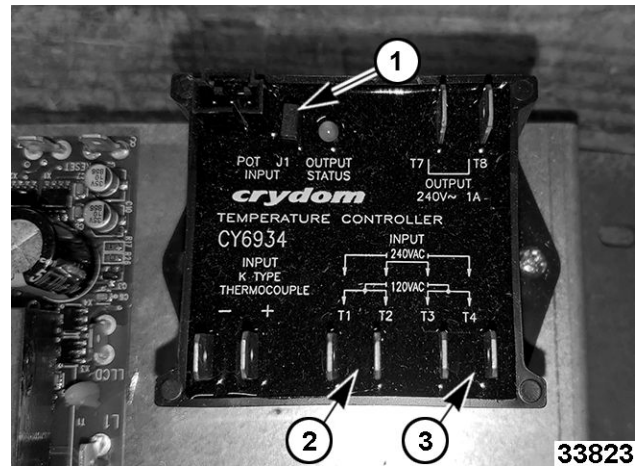

Fig. 12
2ND GENERATION TEMPERATURE CONTROLLER SHOWN IN Fig. 12
- Item 1 shown in Fig. 12 is J1 jumper. REMOVE J1 jumper when installing a second generation temperature controller.
- Item 2 shown in Fig. 12 connection is both wires going to T1 and T2 equals L1 (HOT).
- Item 3 shown in Fig. 12 connection is both wires going to T3 and T4 equals L2 (NEUTRAL).